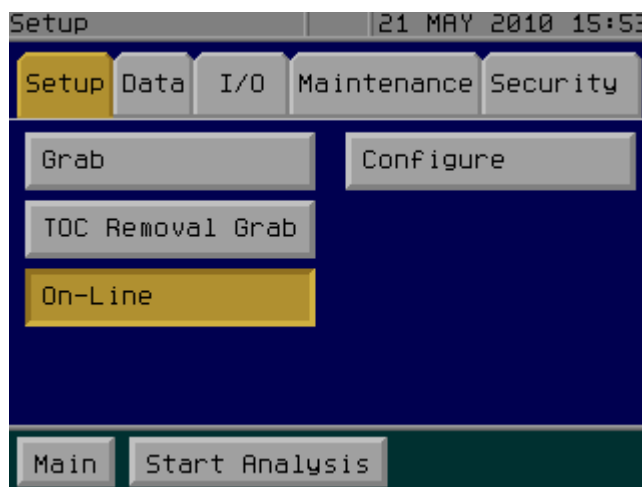

Figure 7: The Setup Tab
1. Select the **Setup** tab. (See Figure 7.)
2. Press the **Configure Mode** button. (See Figure 7.)